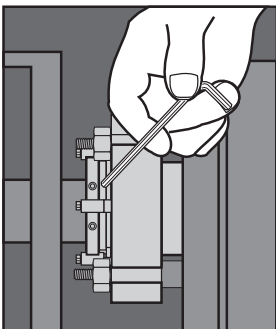

Figure 9
2.7 With the impeller, shaft, coupling, and bearings in their final operating positions, **tighten the 86/87 set screws.** See Figure 9.